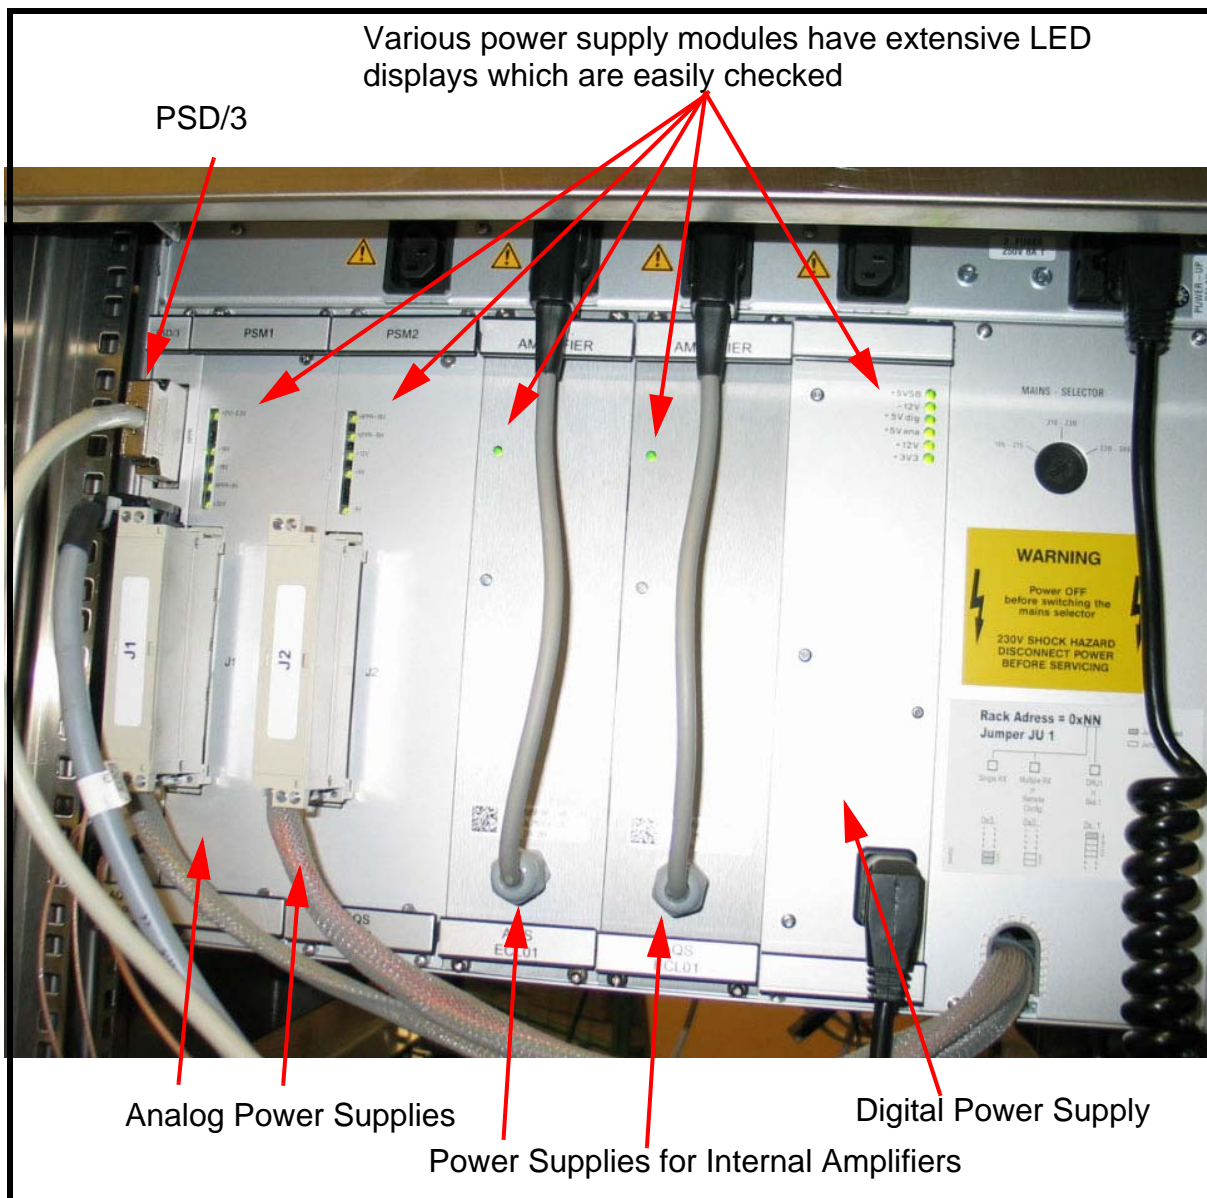

Figure 3.10. Rear View of AQS3
- If power LEDs on the various front panels are not lit then the LEDs on the power supplies at the rear of the AQS (see **Figure 3.10.**) should also be checked.